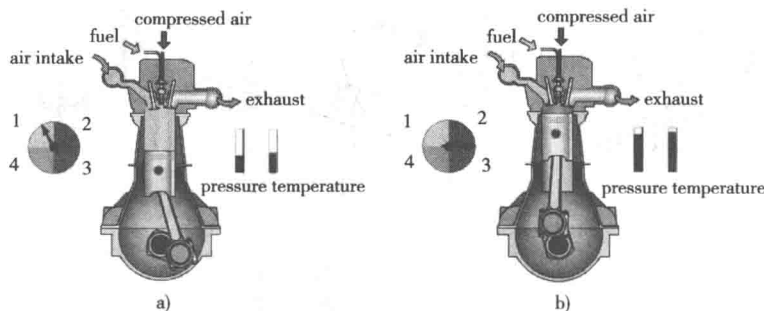

Figure 1-2 Intake and Compression Stroke
3. As the piston bottoms out, it uncovers the air intake ports. Pressurized air fills the cylinder, forcing out the remainder of the exhaust gases (shown as Figure 1-2).
4. The exhaust valves close and the piston starts traveling back upward, re-covering the intake ports and compressing the fresh charge of air. This is the compression stroke (shown as Figure 1-2).